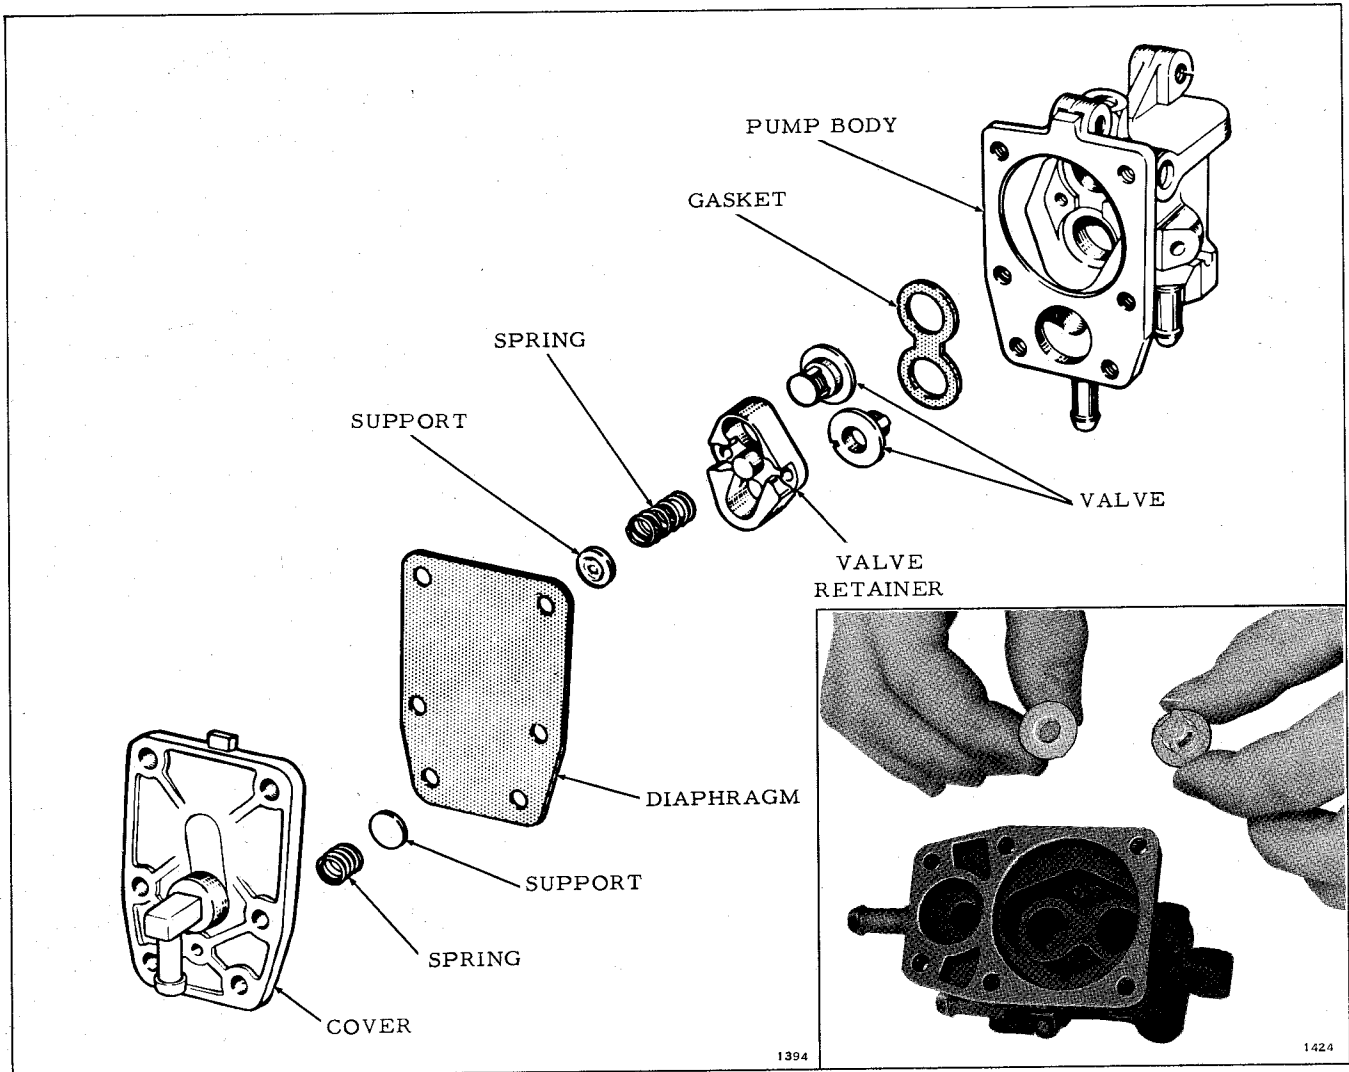

Figure 3-28. Fuel Pump Assembly
Note carefully the positions of parts of the fuel pump during disassembly, to avoid errors later in reassembling the pump. See Figure 3-28. Take all precautions to keep dirt from getting into parts, since very small amounts of dirt can cause improper functioning of the pump.
a. Place gasket into pump body. Install valves in positions shown in Figure 3-28. Install valve retainer.